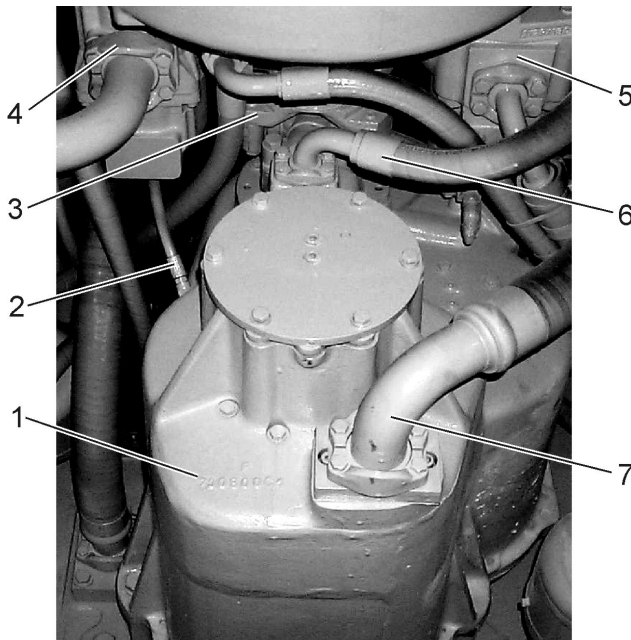

Fig. 7C.3. Transmission Disconnecting Points
6. Disconnect the electrical harness from the pressure switches (9, Fig. 7C.2) located on the range selector valve (11) and remove pressure switches (9). Remove check with orifice valves (10), if needed. Disconnect the electrical harness from input shaft RPM sensor (6) and remove the sensor (6), if necessary. If removed, use suitable plug to prevent dirt and dust from entering.
7. Disconnect drain hoses (4) from the valves manifold (12).
8. Disconnect supply hose from the pressure regulator valve (7). Disconnect torque converter supply hose from the pressure regulator valve (7).